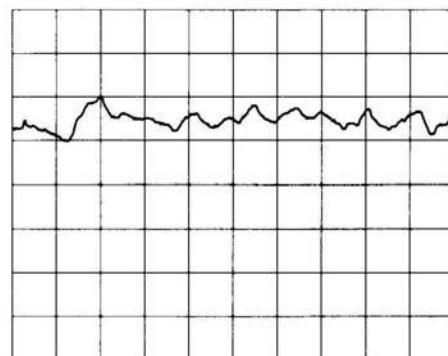

FIGURE 4-7. RESIDUAL FM DISPLAY
6. Slightly readjust spectrum analyzer FINE TUNING control until trace appears between fourth and seventh graticule lines. Peak-to-peak variation of trace should not exceed 1.4 vertical divisions for each horizontal division (see Figure 4-7).